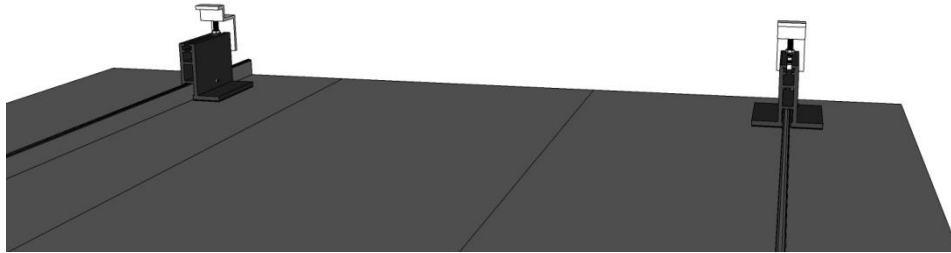

Fig 3
1. Position mounting feet on roof, parallel to the roof ridge (fig 3). Press the mounting feet down flat to the roof and secure the mounting feet by tightening the set screws against standing seam.